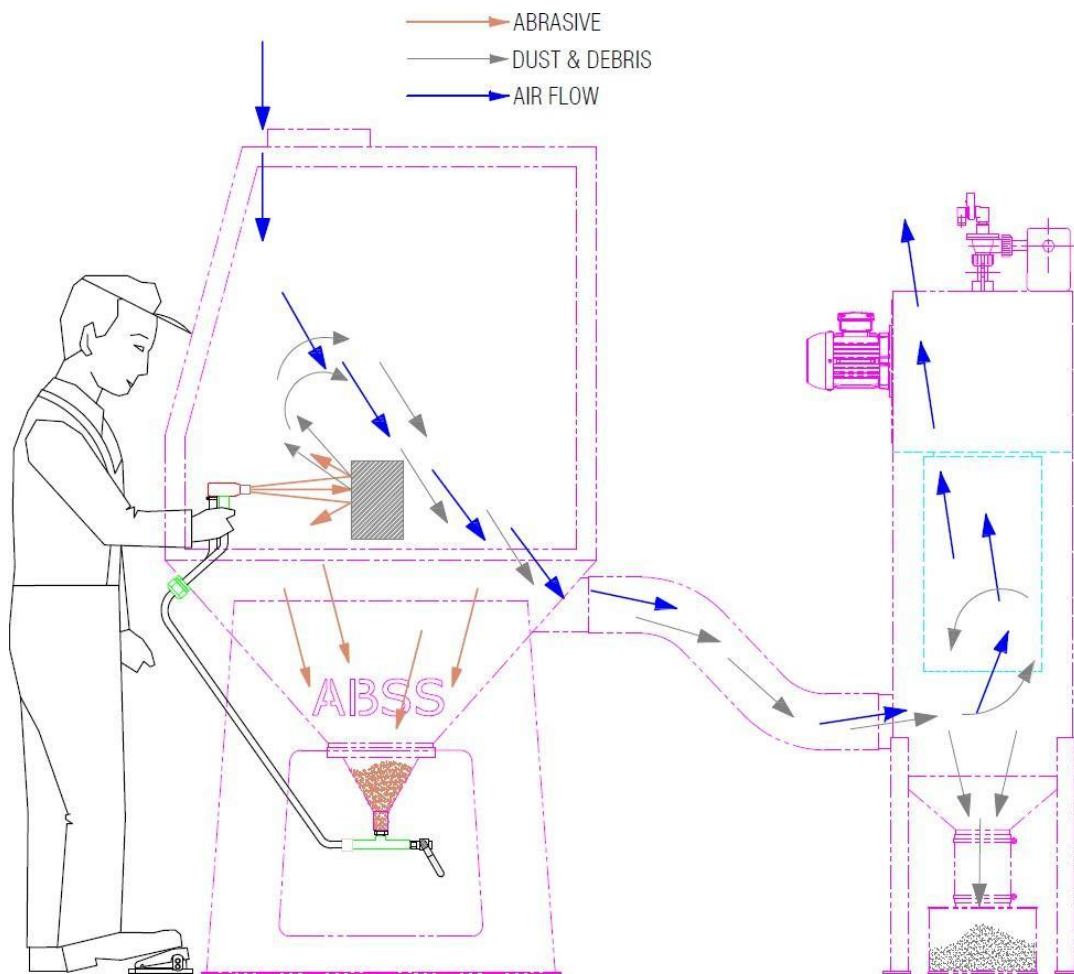

Figure 3 Showing RP Dust Collector
2.3.4 This airflow draws the lighter dust and debris out of the cabinet and into the dust collector, where it is filtered by a pleated filter cartridge before clean filtered air is discharged from the dust collector outlet. See Figure 3.